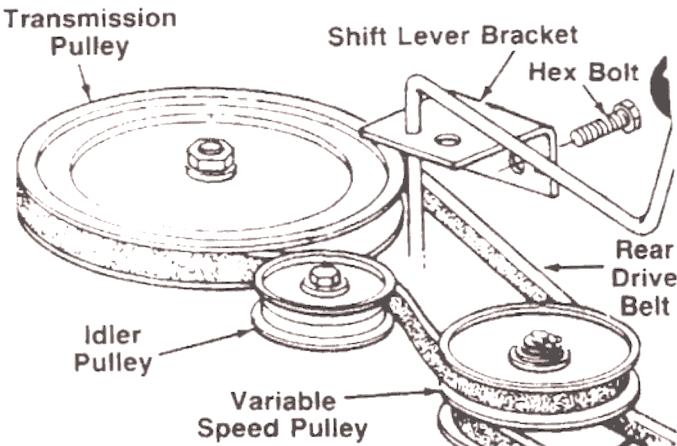

FIGURE 21.
- Push the idler pulley toward the right side of the unit. Lift the belt over the idler pulley. See figure 21.
- Remove the two bolts which hold the shift lever bracket to the frame on the left side of the unit. Swing the bracket toward the right so the belt can be removed from the transmission pulley. See figure 21.